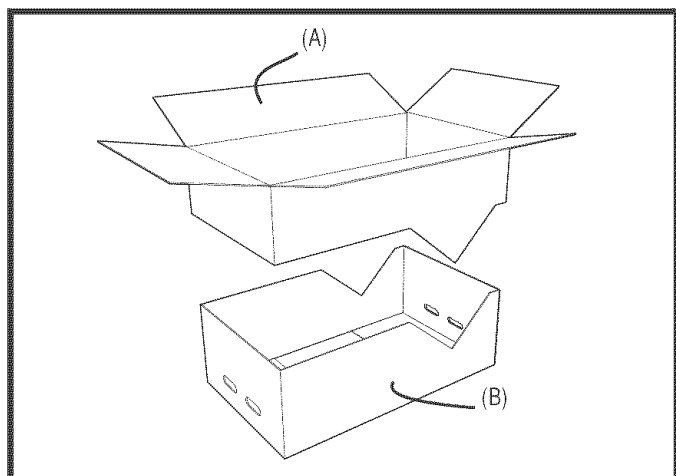

Figure 21
2. Using cutting line around the carton, cut into two pieces (A) and (B). See Figure 21.